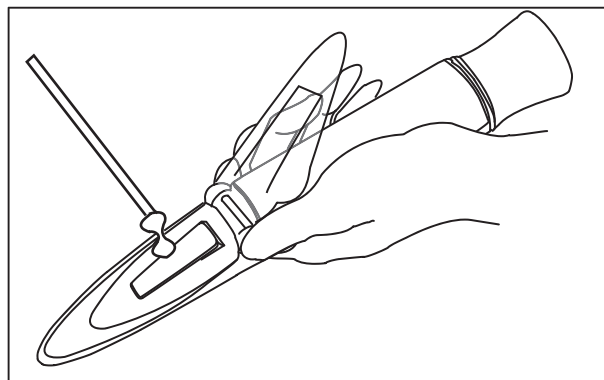

Fig. 6-4 Measuring Procedure 1
1. Place 1 or 2 drops of specimen on the prism. (Figure 6-4)